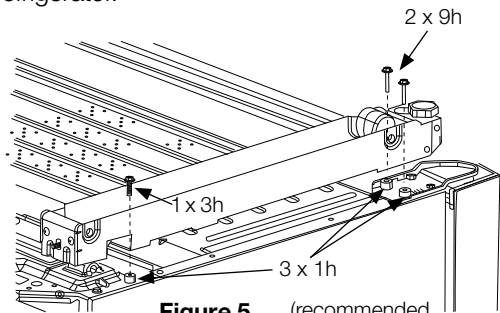

Figure 5
- The leveller assembly attaches to the refrigerator with 3 spacers (1H) and 3 screws 9H and 3H (Fig 5).